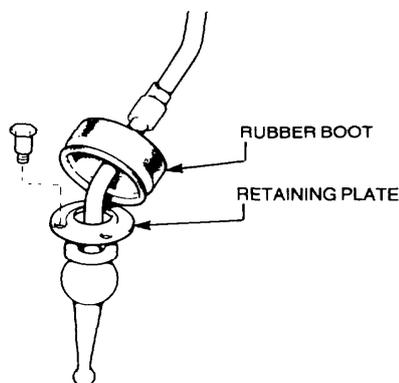

Figure 59 Gear Lever Removal
- e. Remove the three bolts securing the retaining plate to the top cover (Figure 59).